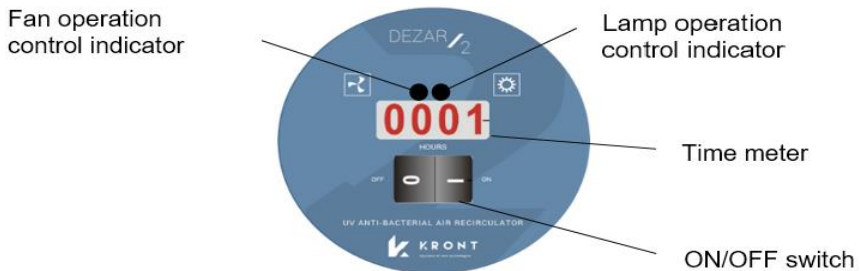

Fig. 6. Control panel
- 6.9. Light indicators on the control panel (Fig. 6) control supply voltage to the lamps and fans. If no voltage, indicator goes out. Kamp and fan icons are depicted next to respective light indicators.